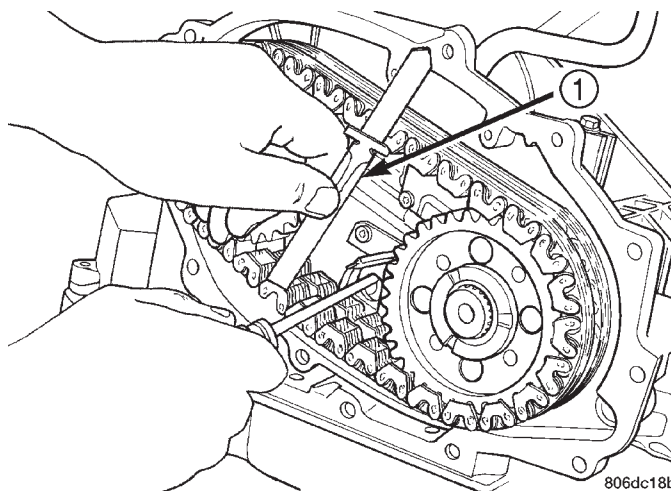

Fig. 440 Chain Measurement
- (2) Pry the chains down at the center of the chains.
- (3) Butt a scale against the snubber and mark the scale at the bottom of the chains (Fig. 440).